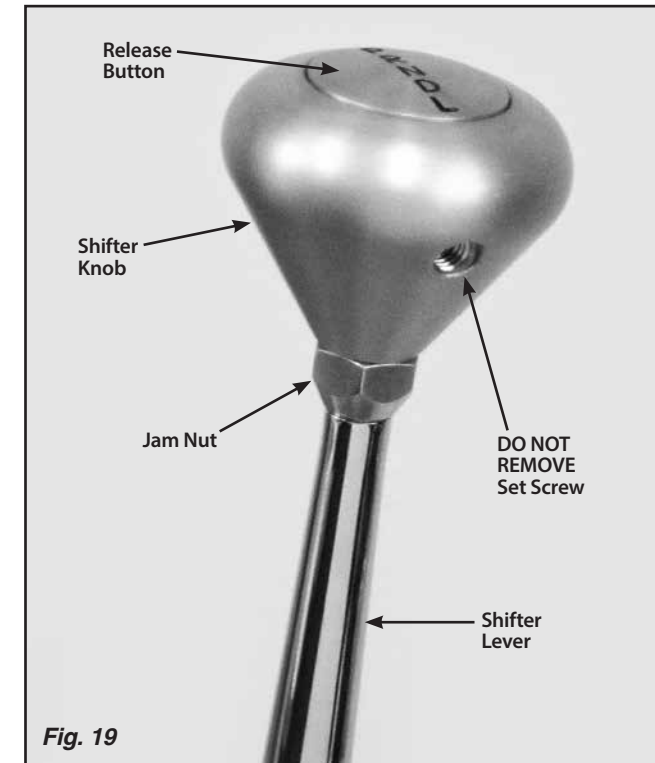

Fig. 19
**Step 2:** Loosen the jam nut below the shifter knob (turn the nut **CLOCKWISE** to loosen it). **DO NOT** loosen or remove the set screw that is in the knob. **Fig. 19**